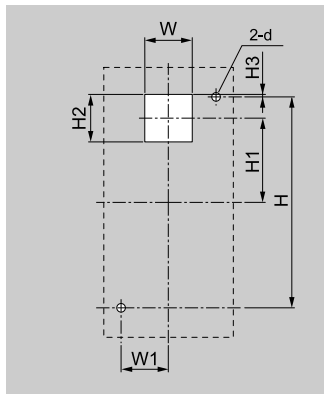

Figure 2.11 External/Face Mount Enclosure Panel Cut-Out Dimensions
1. Use the dimensions in Figure 2.11 and Table 2.10 to cut an opening in the control panel for the keypad.